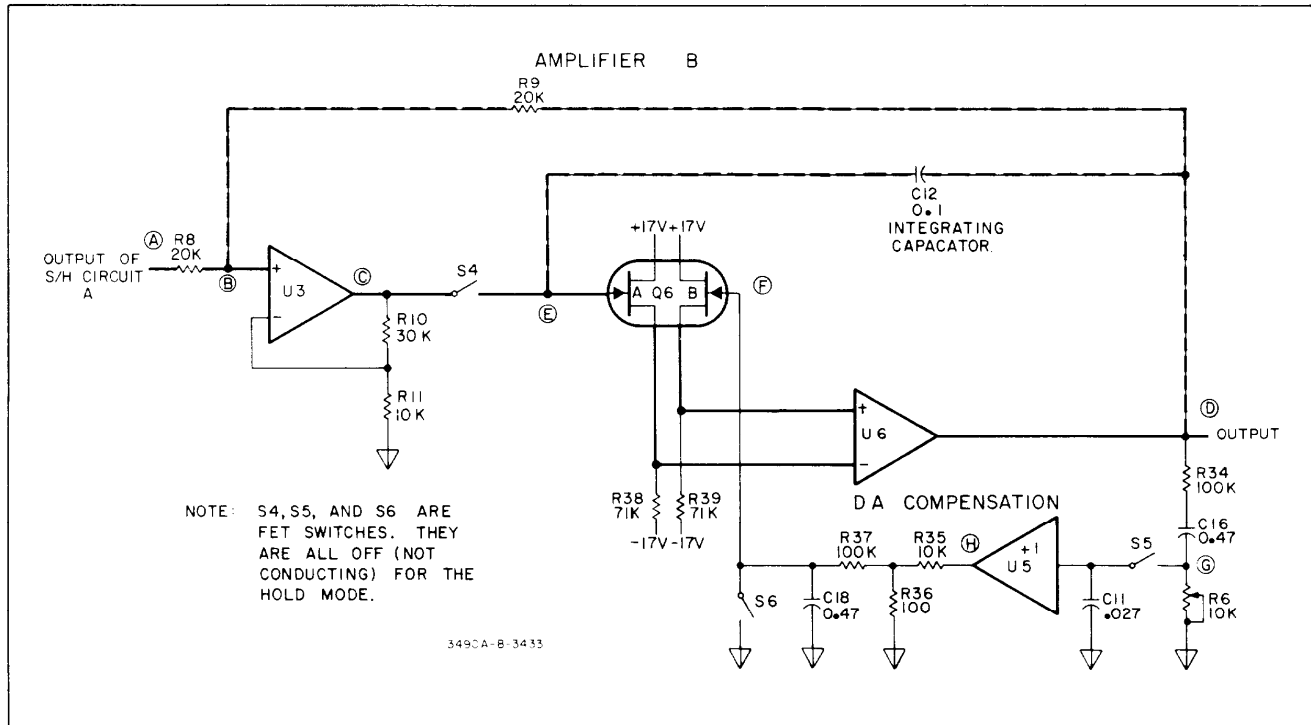
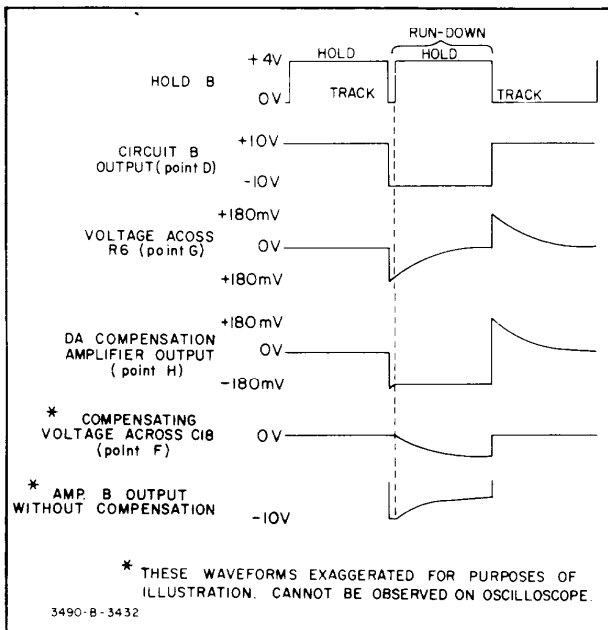

Figure 4-25. Simplified Diagram of S/H Circuit B.
Figure 4-26. Dielectric Absorption Compensation.
4-223. Circuit B. A simplified diagram of Sample/Hold Circuit B is shown in Figure 4-25. The operation of Sample/Hold Circuit B is similar to the operation of Circuit A. Circuit B responds more slowly than A and is able to hold a constant output level long enough for an accurate measurement to be completed. To allow time for Circuit B to respond to the output of A, the B Hold command occurs about 2 milliseconds after the A Hold command. The purpose of the amplifier circuit shown in Figure 4-25 between points D and F is to compensate for dielectric absorption in the integration capacitor, C12.
4-225. Compensation for Dielectric Absorption. To prevent deterioration of the Sample/Hold output signal due to dielectric absorption, an amplifier is used between the output of Circuit B and the non-inverting input to the integrator portion of this circuit (points D and F in Figure 4-25). The waveforms in Figure 4-26 help to illustrate the action of the Dielectric Absorption (DA) Compensation circuit. During the Track Mode, S5 and S6 (Figure 4-25) are closed. Any change in the output voltage at point D causes current to flow through the rc circuit R34, C16 and R6. This current decreases as C16 assumes the new voltage. The resulting voltage across R6 is applied to C11 and the DA Compensation amplifier input. When a Hold B command occurs, S5 opens and the voltage across C11 remains at the level present at that moment. S6 also opens at this time, allowing C18 to begin charging slowly toward a voltage proportional to the charge on C11. The compensating voltage at point F is the voltage developed across C18. As the time increases between a voltage change at the integrating capacitor and the Hold B command, the need for compensation decreases, and the compensation provided also decreases.